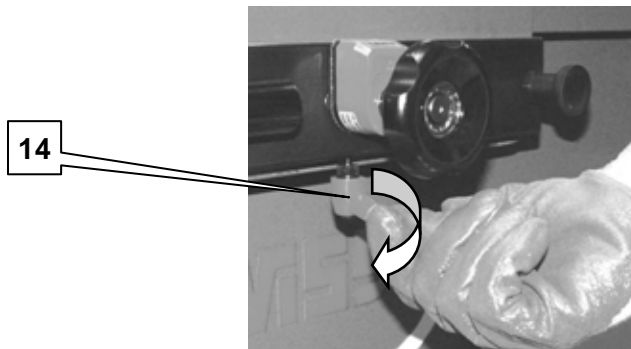

Fig. 4.61 – Lever unlocking
- 9.1 unlock lever **14** (fig. 4.61);